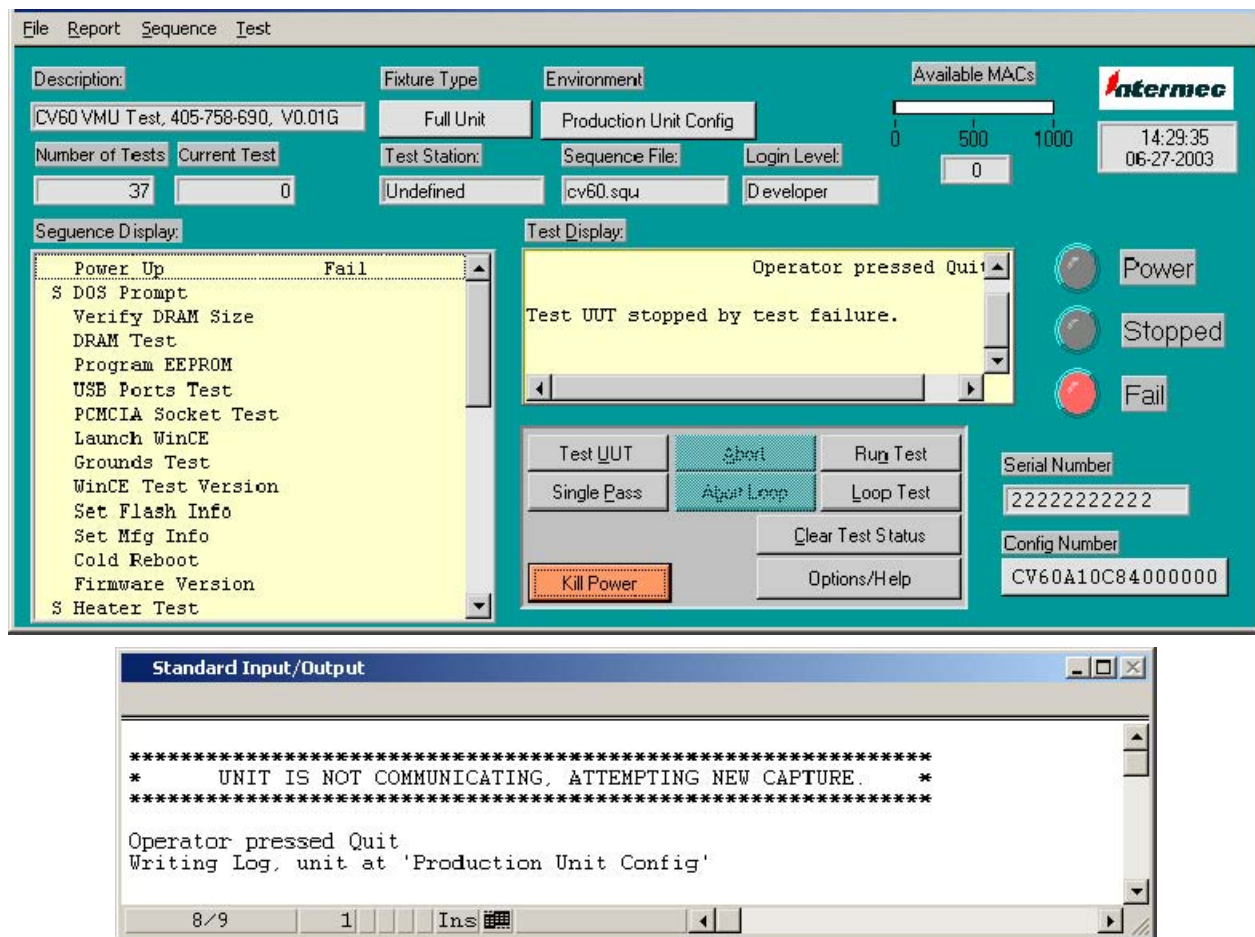

Figure 1
- 6.06 The test status will be shown in the test status window, '*Sequence Display*', on the main test screen (see figure 1). As each test is run it will be highlighted, after which its Pass/Fail result will be displayed. Note that some of the tests will be skipped depending upon the configuration of the unit. Many of the messages that the test program displays will be shown in the bottom half of the screen in the Standard I/O window.
- 7.06 The test status will be shown in the test status window, '*Sequence Display*', on the main test screen (see figure 1). As each test is run it will be highlighted, after which its Pass/Fail result will be displayed. Note that some of the tests will be skipped depending upon the configuration of the unit. Many of the messages that the test program displays will be shown in the bottom half of the screen in the Standard I/O window.